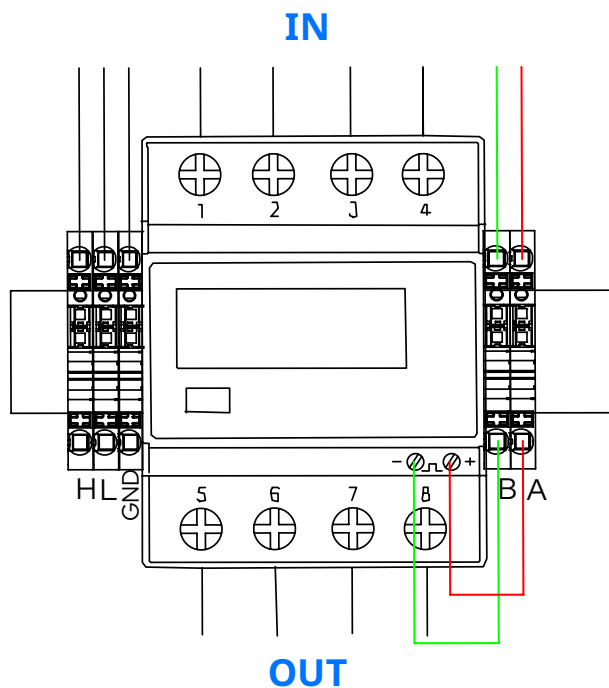

Fig. 48: Wiring diagram for MID meter communication wires for a Enelion VERTICA pole equipped with a Enelion VERTICA link module.
4. In the case of a Enelion VERTICA pole equipped with a Enelion VERTICA link module, connect two signal wires to the rail connectors located on the top DIN rail (on the right side). Connect the red wire to the connector labeled ,A+' (to which the red wire is already connected), and the green wire to the connector labeled ,B-' (to which the green wire is already connected) - see Figure 48.